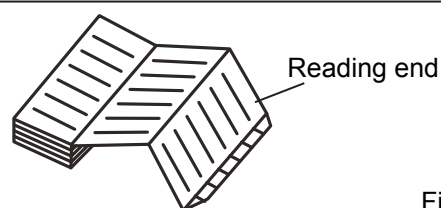

Fig. 3
- Put the recording paper into the cartridge with the printed surface out, from the leading end as shown in Fig. 3